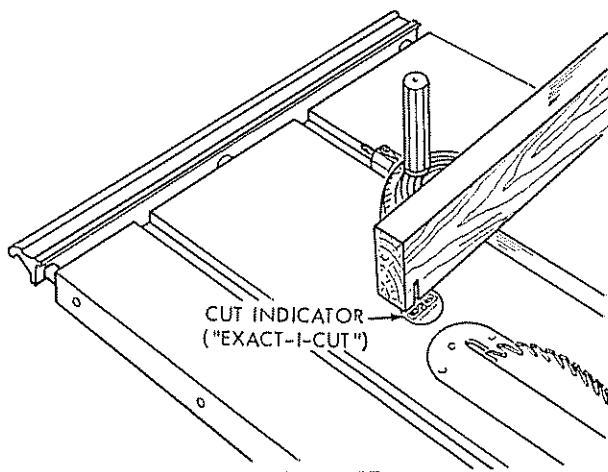
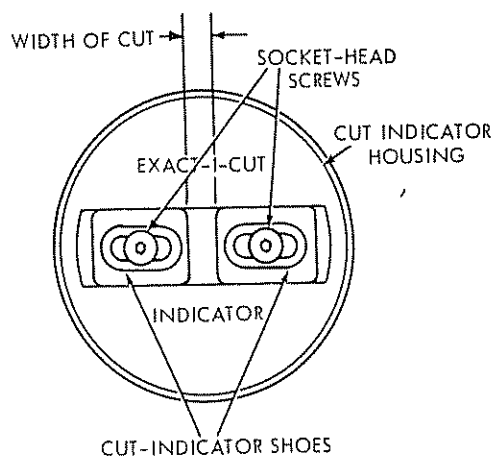

Figure 57
Figure 58
The cut indicator ("Exact-I-Cut") located a few inches ahead of the saw blade (figure 57), enables the operator to determine precisely where the cut in a particular board will occur, provided the cut indicator shoes have been correctly positioned. It should be checked and adjusted (if necessary) as follows:
1. Inspect the cut indicator housing (figure 58) to make sure it is even or just slightly below the level of table top surface. If too high, locate the two cut indicator housing attaching screws underneath the saw table and tighten them until the housing is flush (or slightly below) the table top surface. If the cut indicator housing is too low, loosen the attaching screws until it is correctly positioned. (The cut indicator housing has a spring-type washer under it which permits it to be raised, or lowered, in response to tightening or loosening the attaching screws.
4. Make a small cut and pull the miter gauge back until the cut is directly on the "Exact-I-Cut". (See figure 57.) If both cut indicator shoes are aligned with the edges of the cut, no adjustment is required. If not aligned, loosen the two socket, flat-head screws with a 1/16-inch hex-L wrench and slide the cut indicator shoes laterally until the edge of each shoe is aligned with its respective edge of the cut in the board. (See figure 58.) Tighten both screws and recheck for accuracy of the adjustment.